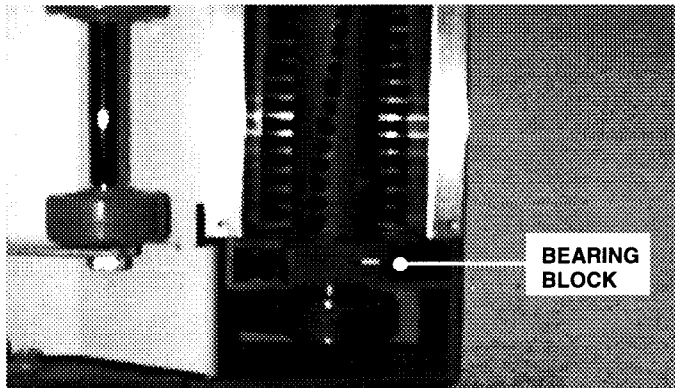

FIG. 13
2. Force drive belt from brush pulley. Notice that rubber bearing blocks have Number "1" showing. (Figure 13)
3. Slide complete brush and block assembly from lower housing, and turn rubber blocks until Number "2" appears with arrows pointing toward front of machine. Install brush back into housing with Number "2" in this position. This procedure extends brush bristles farther through shoe. (Figure 13)